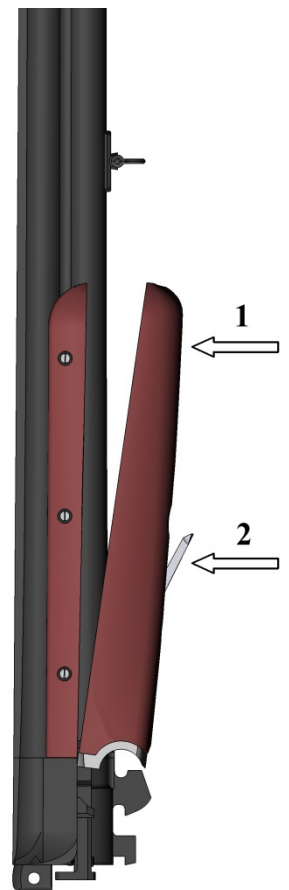

Figure 23
3.2 Attaching forearm to barrel (for shipment) (Figure 23)